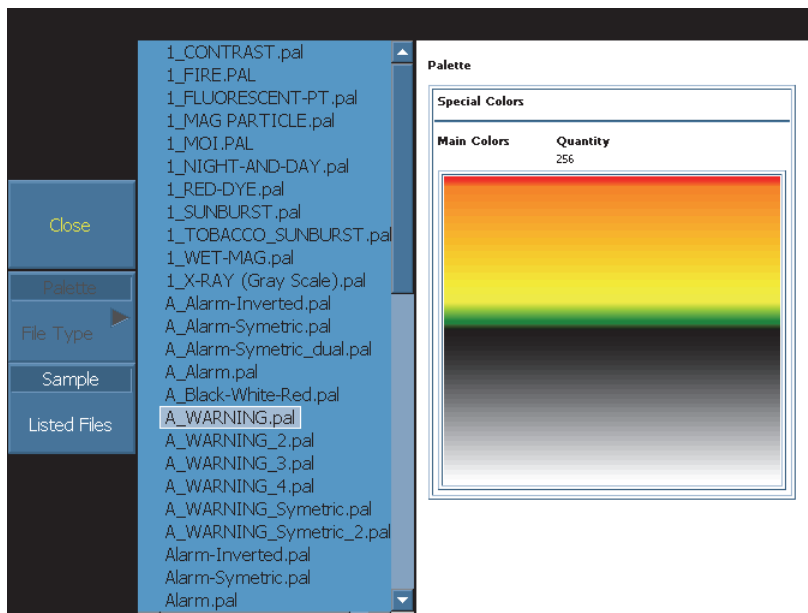

Figure 6-1 The color palette manager listing sample color palettes
1. Select **Display > Color > Load Palette** to open the color palette manager (see Figure 6-1 on page 124).